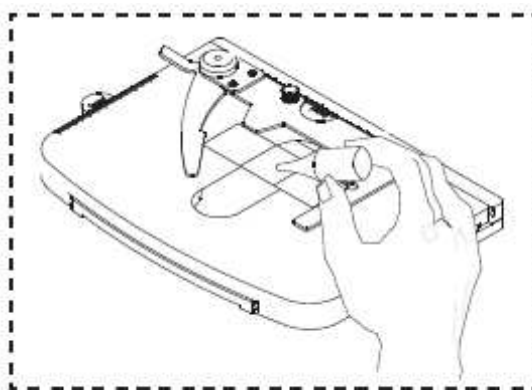

Fig. 17
c) Using 100X Immersion objectives (Fig.17)